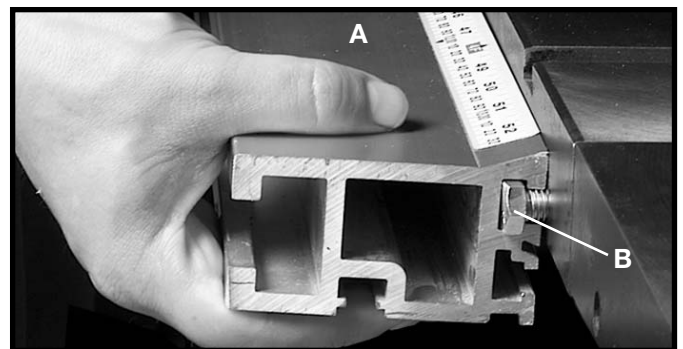
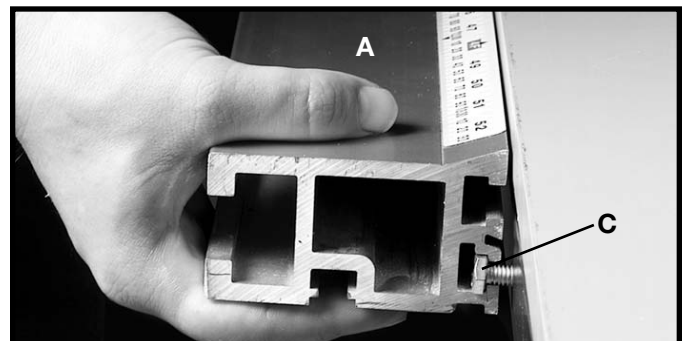

Fig. 23
Fig. 24
5. From either end, slide the T-Slot guide rail (A) Fig. 23, onto the hex head of the bolts partially inserted in step 3 and 4 above. **Note: The bolt heads on the saw table slide into the upper t-slot (B) Fig. 23 and the bolt head on the extension table slide into the lower t-slot (C) Fig. 24.**